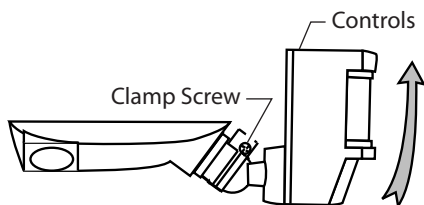

Figure 8
1. Rotate the sensor head towards the clamp screw joint (see Figure 8).